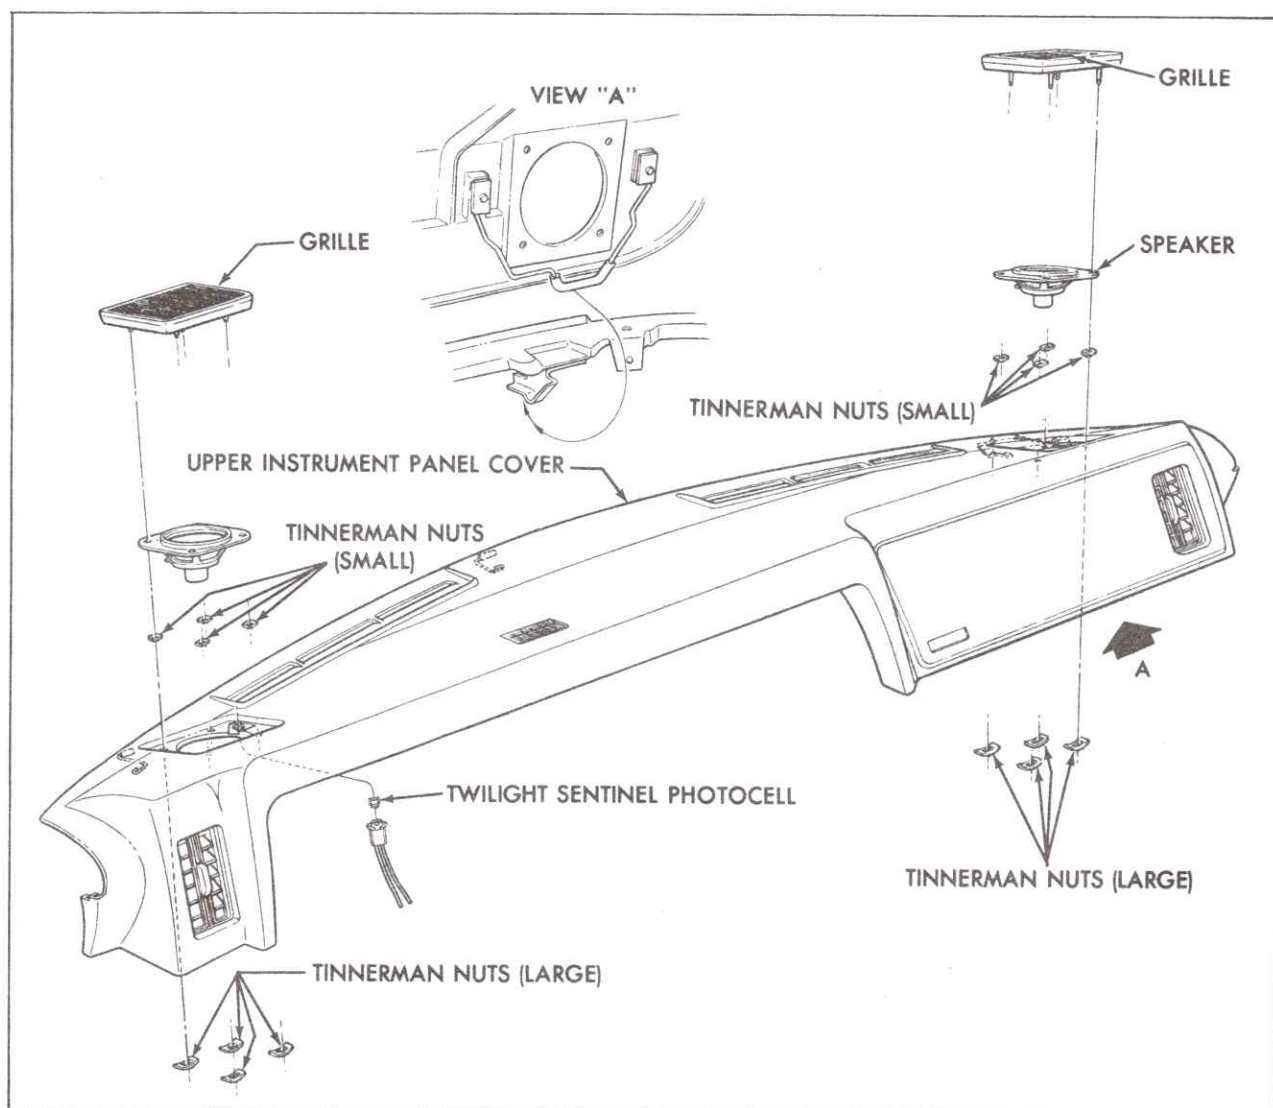

Fig. 12-47 Instrument Panel - Perspective 6
3. Remove either AM/FM-Stereo radio front speaker by removing four larger nuts that secure speaker and grille to upper instrument panel cover, Fig. 12-47. Remove grille and speaker. Separate speaker from grille by removing four smaller nuts.
2. On either AM/FM-Stereo radio front speaker secure speaker to grille with four smaller tinnerman nuts, Fig. 12-47. Secure speaker and grille to upper instrument panel cover with four larger tinnerman nuts.